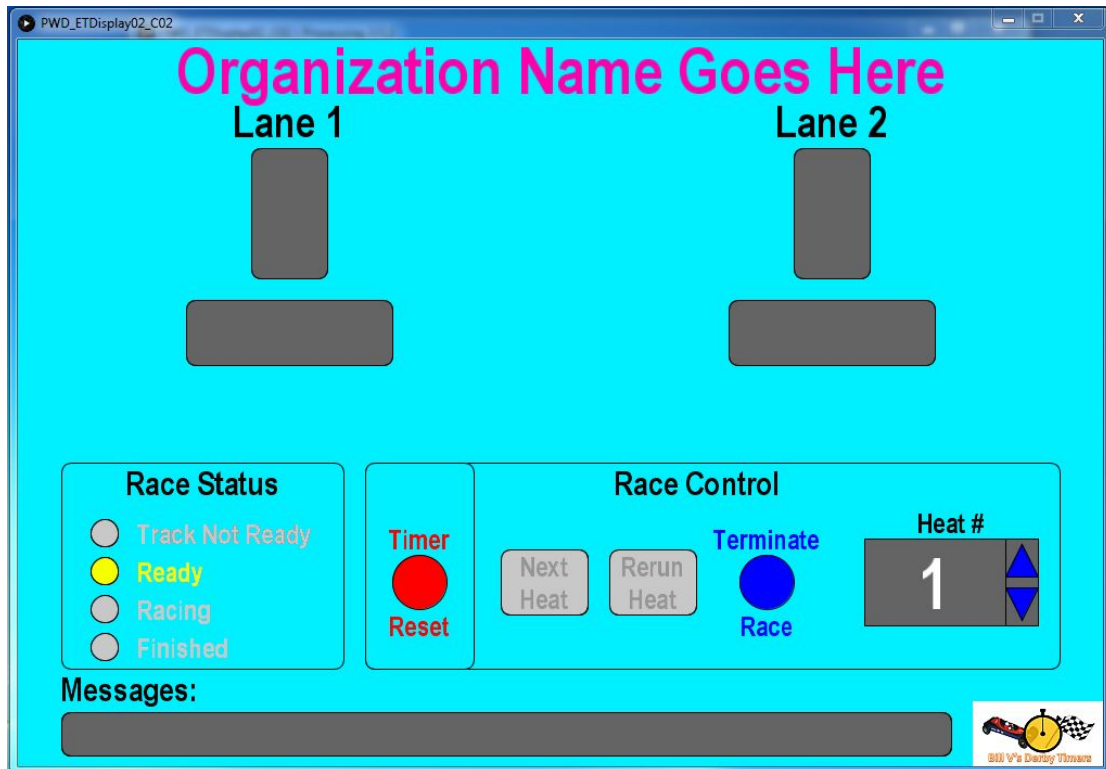

Figure 3 – Ready To Race Example
4. Click on the 'Next Heat' button (Refer to Fig. 3).